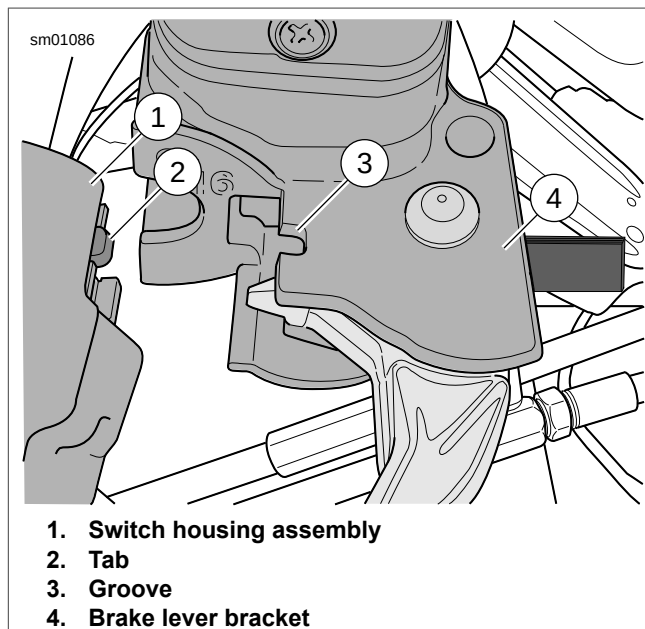

Figure 7-55. Switch Housing Alignment (typical)
14. See Figure 7-55. Position the brake lever/master cylinder assembly inboard of the switch housing assembly, engaging the tab on the lower switch housing in the groove at the top of the brake lever bracket.